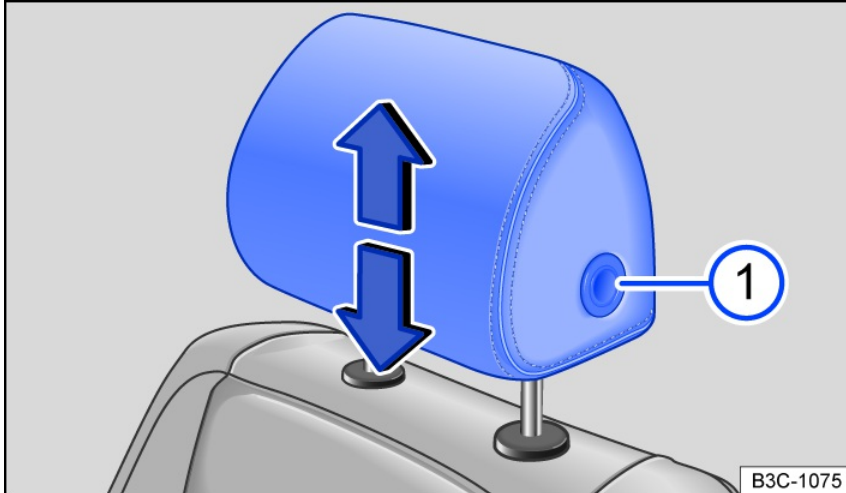

Fig. 72 Front head restraint: adjusting.
- If necessary, slide the head restraint upward or downward in the direction of the arrow and when pressing the fig. 72 ① button.